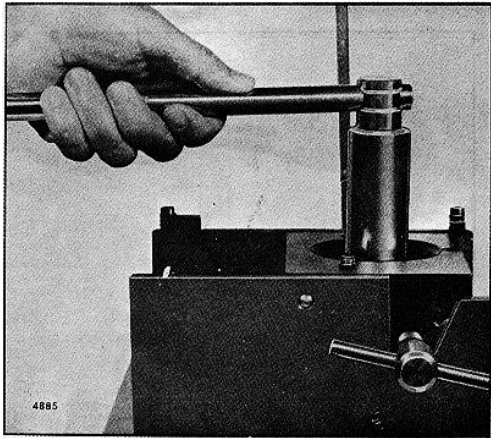

FIG. 25 - Removing Injector Nut using Tool J 4983-01
4. Invert the fixture and, using socket J 4983-01, loosen the nut on the injector body (Fig. 25).